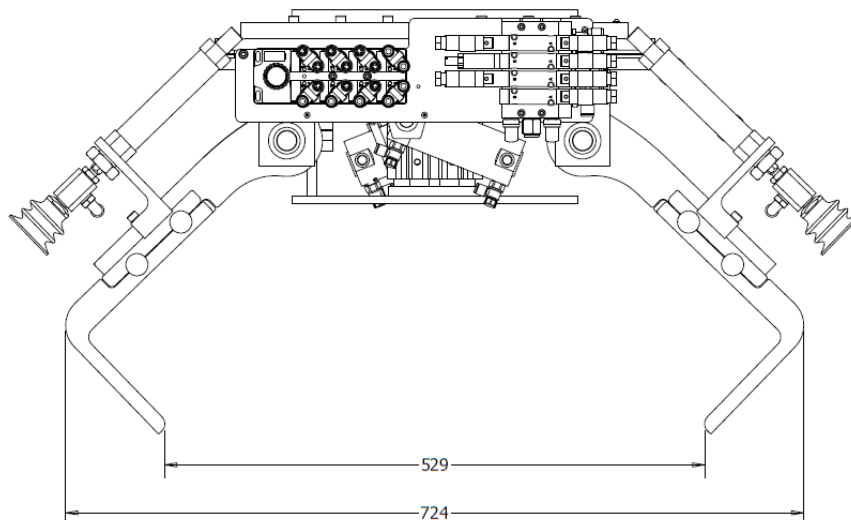

Figure 12 Bag gripper max. opening position, narrow bag (Factory setting)
- Position showing the maximum opening of the gripper fingers in the narrow bag position (Factory setting), see figure 12.